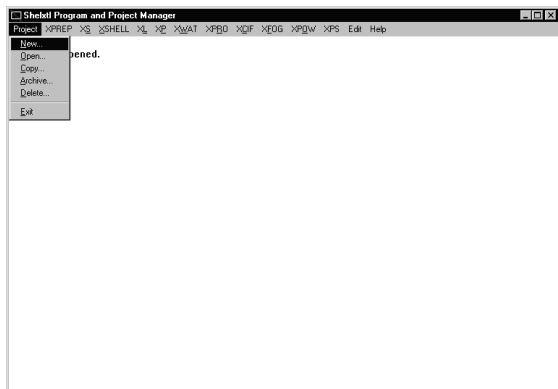

Figure 6-2. Create a new project
2. Click Project > New to create a new project for the YLID (Figure 6-2).